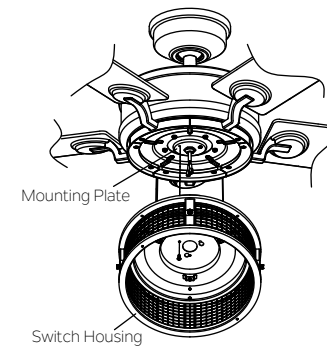

Fig. 19
Step 1. Remove this screw preinstalled on mounting plate and loosen the other two (do not remove). Place the two slot holes on the switch housing over the 2 screws previously loosened from the mounting plate. Rotate the switch housing until it locks in place at the narrow end of the key holes. Securely by tightening the 2 screws previously loosened and the one previously removed.(Fig. 19)